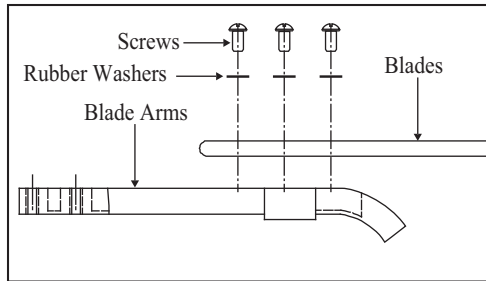

Figure 15
1. Attach blades to blade arms using three screws and rubber washers (Fig. 15). Start a screw into the blade arm, do not tighten. Repeat for the 2 remaining screws and washers.